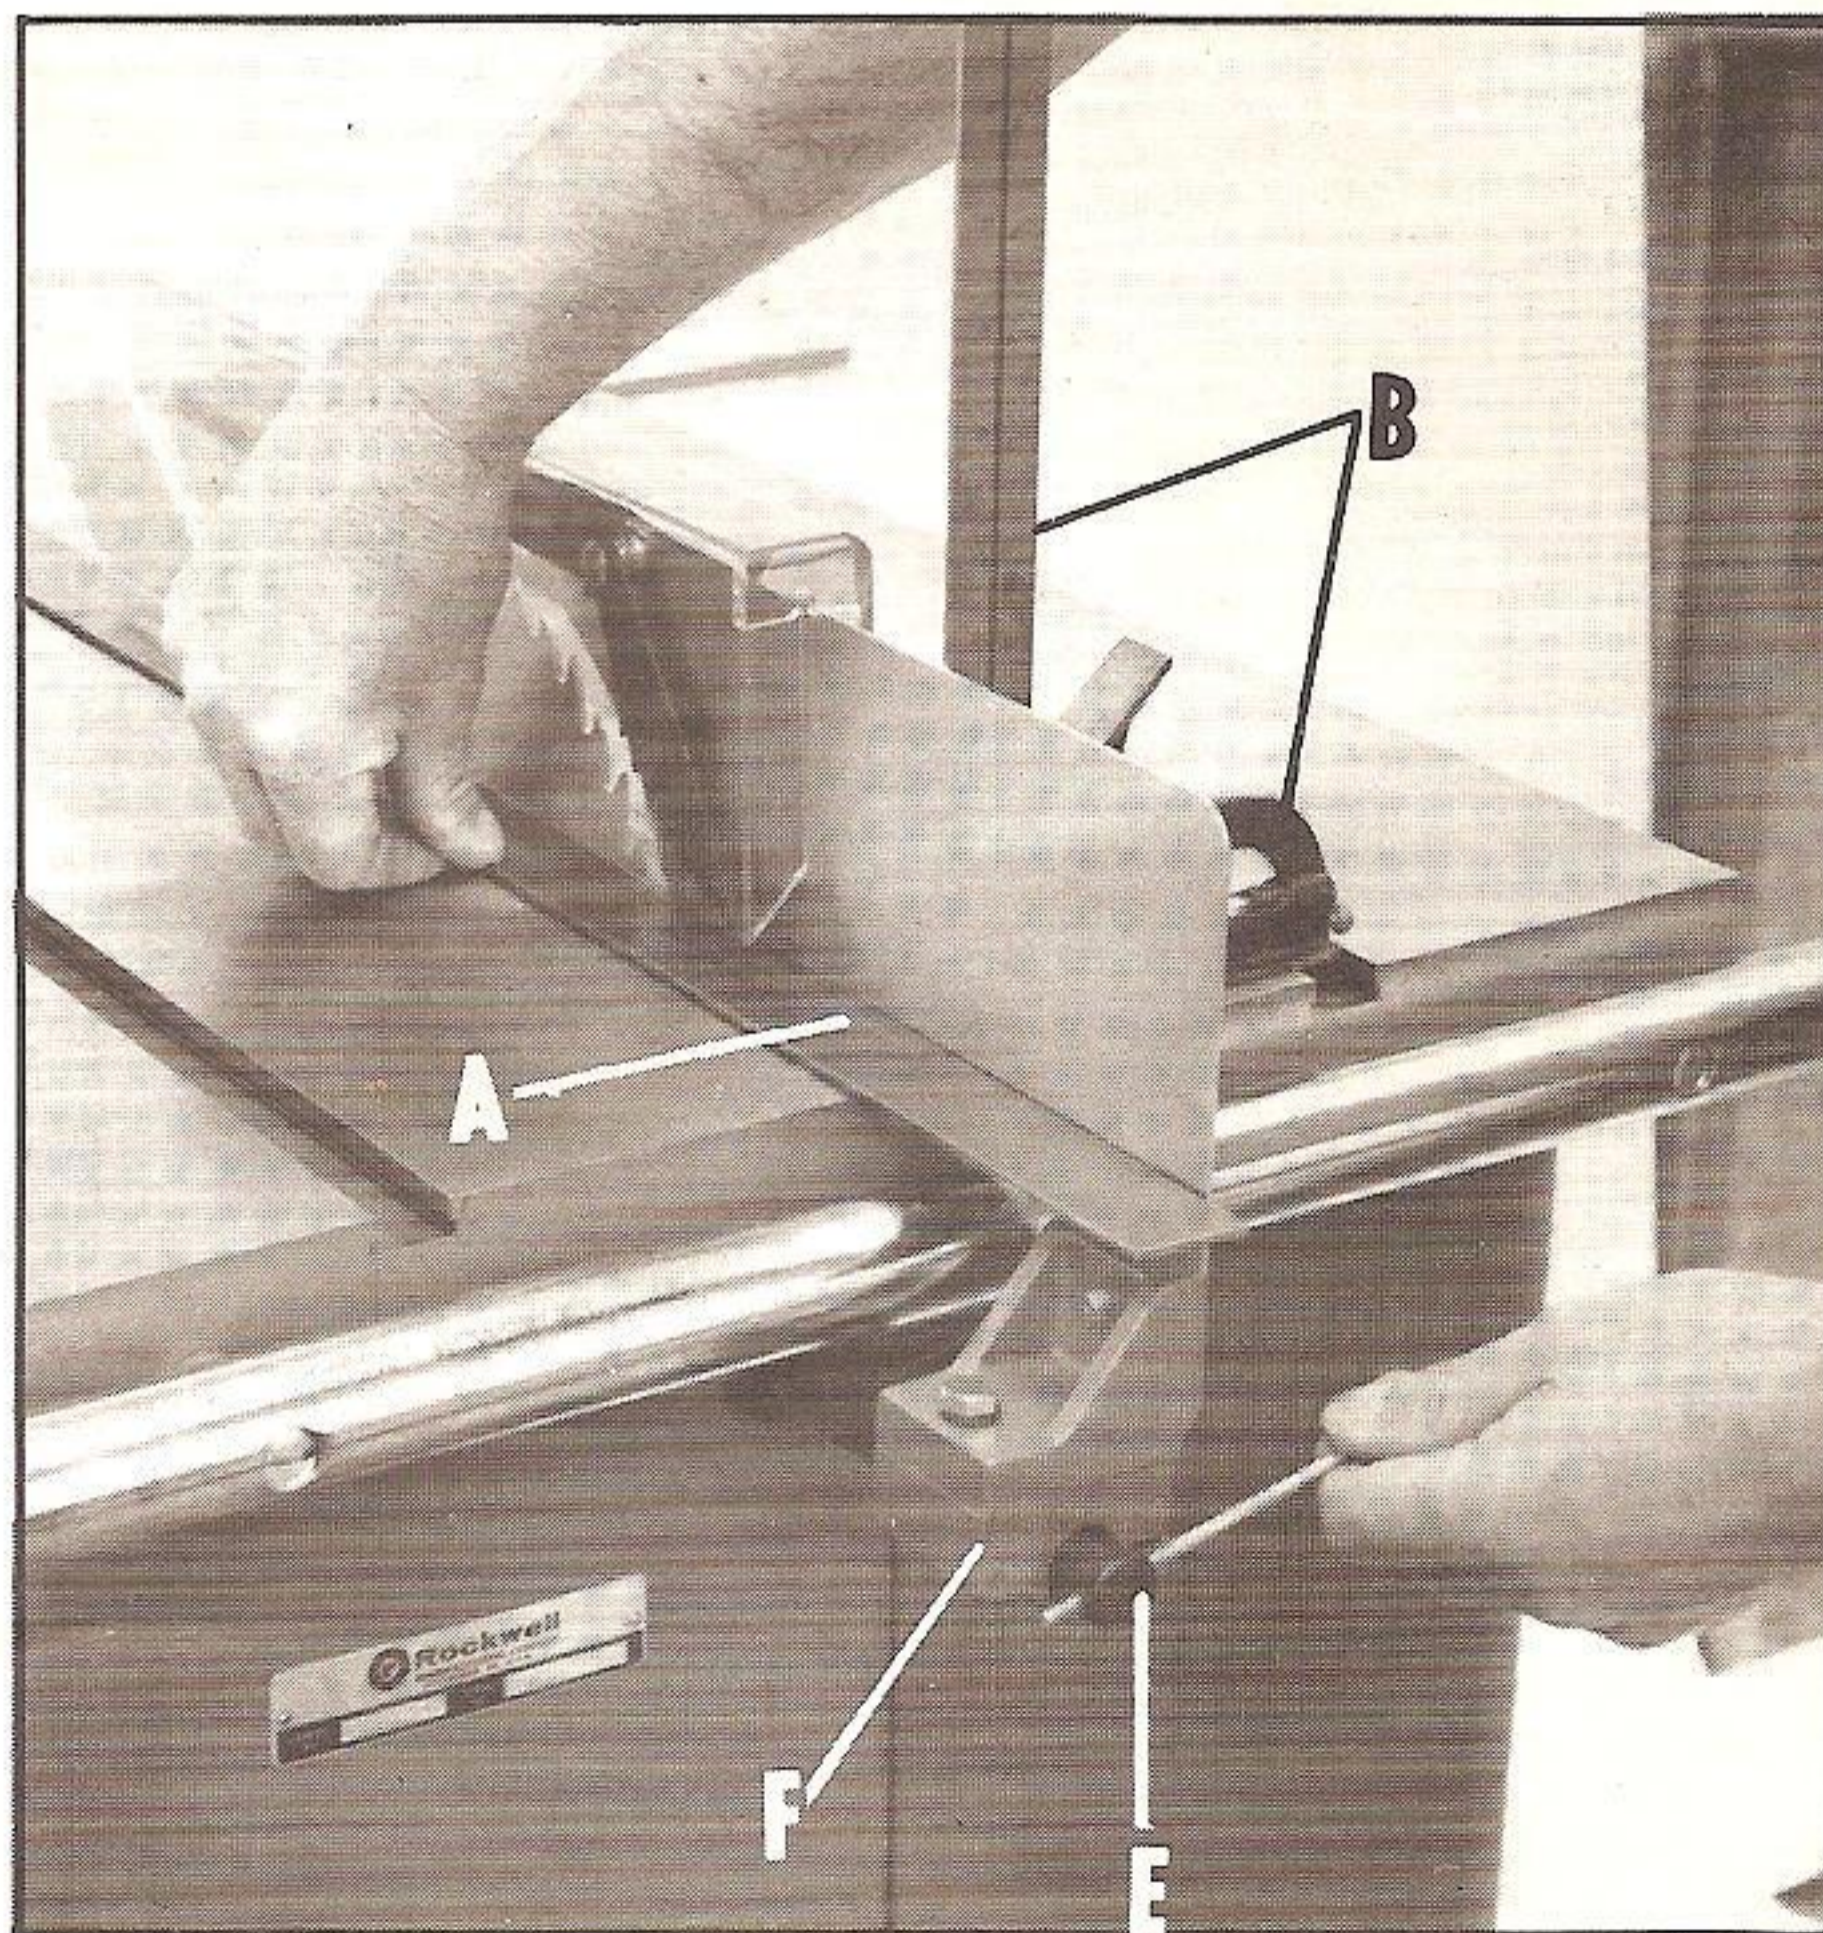

Fig. 12
9. Using a straight edge (A) and square (B) Fig. 12, align the splitter with the blade and table by rotating eccentric rod (E) and rotating bracket (F) until the splitter is in perfect alignment with the blade and square with the table. NOTE: A nail or small rod can be inserted in hole in end of eccentric rod in order to rotate rod, as shown in Fig. 12.
10. When splitter is in alignment with the blade and square with the table, tighten two screws located underneath the bracket (F) and the nut located inside the cabinet on the other end of eccentric rod (E) Fig. 12.